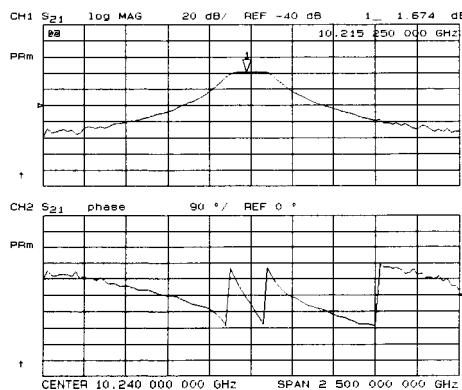

Figure 2-31. Example Insertion Phase Response Measurement
7. To view both the magnitude and phase response of the device, as shown in Figure 2-31, press:
The channel 2 portion of Figure 2-31 shows the insertion phase response of the device under test. The analyzer measures and displays phase over the range of -180° to $+180^\circ$. As phase changes beyond these values, a sharp 360° transition occurs in the displayed data.